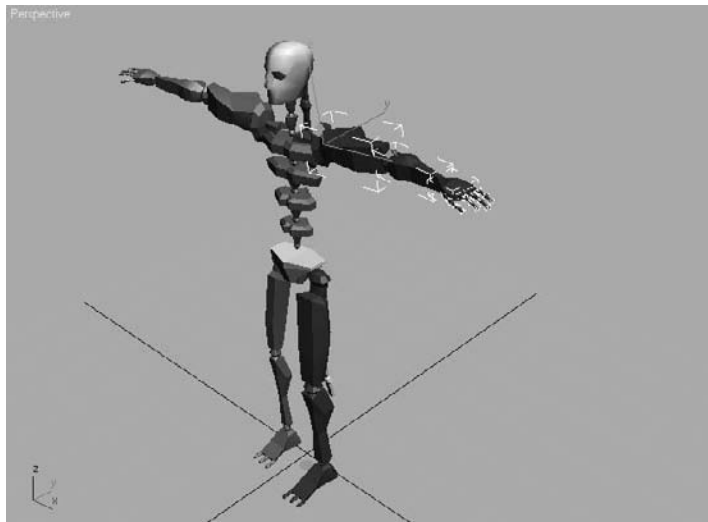

Figure 9.12
6. Click the Paste Posture Opposite button (shown here). The size, scale, and orientation of the selected objects will be applied to the reciprocal objects on the opposite side of the biped, as shown in Figure 9.12.